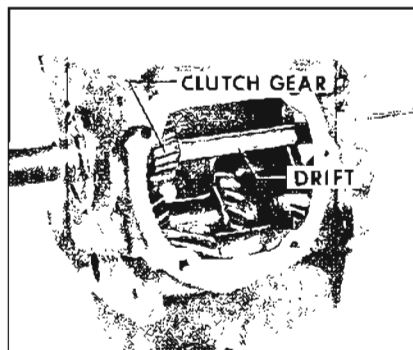

Figure 4-28—Clutch Gear Installation
9. Insert clutch gear from inside case and using a soft drift, tap the outer race of the clutch gear bearing (back of gear) until the bearing locating ring groove is outside the front of the case. Drive the assembly straight to prevent damage. See Figure 4-28.